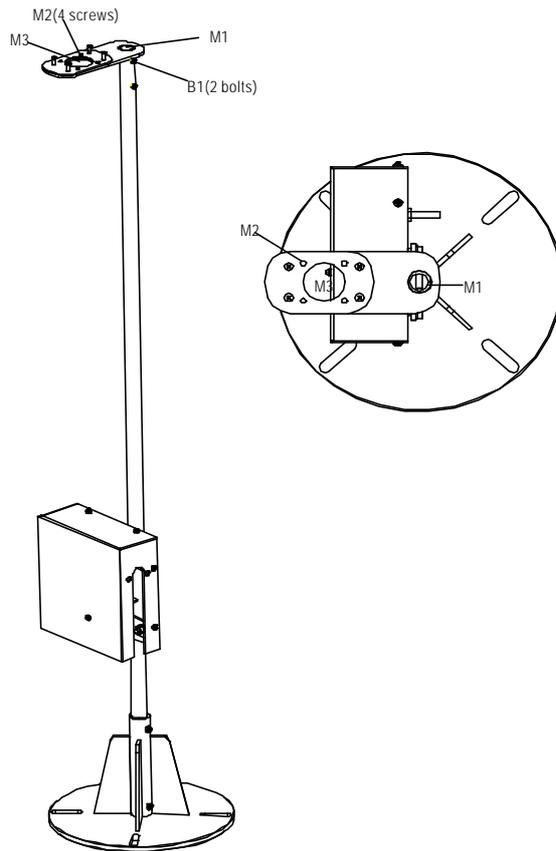

Figure 4-6 Structure of GPS antenna support on building-top
The GPS antenna support for installation on building-top is shown in Figure 4-6.
- 1) Insert the jumper connector at the antenna bottom into M3 of the antenna support as shown in Figure 4-6;
- 1) UTONCORE GPS antenna has such auxiliary fixtures as a rubber washer, a metal plain washer and a bolt. During installation, first unfix the bolt at the antenna bottom and install the rubber washer instead. Then insert the antenna into M3 of the antenna support as shown in Figure 4-6;